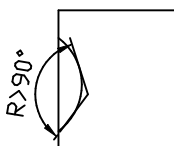

Fig.8.
5. All the angle of the broken must be larger than 90°. It is shown in Fig.8.(R>90°)